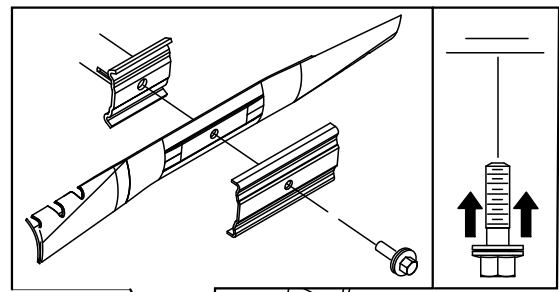

Figure 52
3. Use a block of wood to hold the blade steady (Figure 52).
4. Remove the blade, saving all mounting hardware (Figure 52).
5. Install the new blade and all mounting hardware (Figure 52).